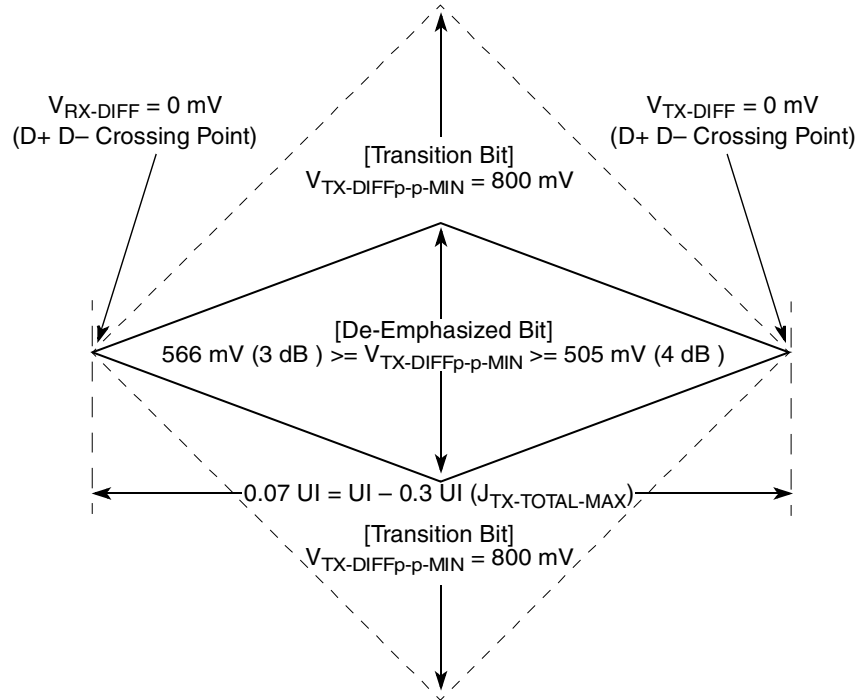
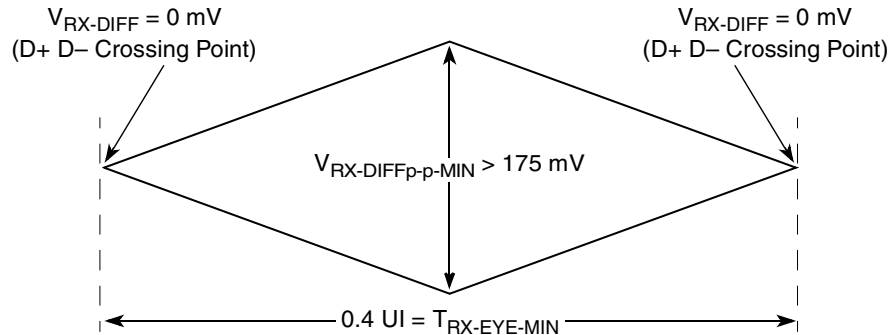
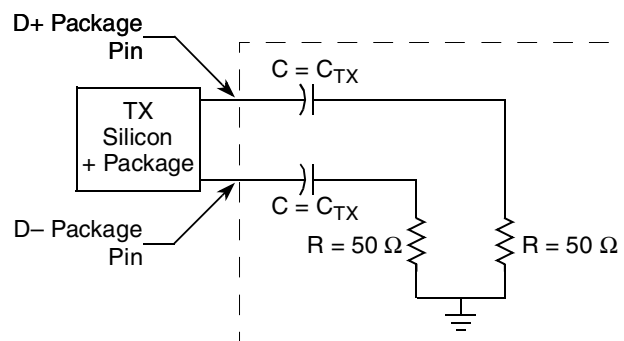

Figure 41. Minimum Transmitter Timing and Voltage Output Compliance Specifications
Figure 42. Minimum Receiver Eye Timing and Voltage Compliance Specification
Figure 43. Compliance Test/Measurement Load
- 2.) Specified at the measurement point into a timing and voltage compliance test load as shown in Figure 43 and measured over any 250 consecutive TX UIs. (Also refer to the transmitter compliance eye diagram shown in Figure 41.)
- 4.) The transmitter input impedance shall result in a differential return loss greater than or equal to 12 dB and a common mode return loss greater than or equal to 6 dB over a frequency range of 50 MHz to 1.25 GHz. This input impedance requirement applies to all valid input levels. The reference impedance for return loss measurements is 50 Ω to ground for both the D+ and D– line (that is, as measured by a vector network analyzer with 50- Ω probes—see Figure 43). Note that the series capacitors C_{TX} is optional for the return loss measurement.
- 5.) Measured between 20–80% at transmitter package pins into a test load as shown in Figure 43 for both $V_{\text{TX-D+}}$ and $V_{\text{TX-D-}}$.
The TX eye diagram in Figure 41 is specified using the passive compliance/test measurement load (see Figure 43) in place of any real PCI Express interconnect + RX component.
- 2.) Specified at the measurement point and measured over any 250 consecutive UIs. The test load in Figure 43 should be used as the RX device when taking measurements (also refer to the receiver compliance eye diagram shown in Figure 42). If the clocks to the RX and TX are not derived from the same reference clock, the TX UI recovered from 3500 consecutive UI must be used as a reference for the eye diagram.
- 4.) The receiver input impedance shall result in a differential return loss greater than or equal to 15 dB with the D+ line biased to 300 mV and the D– line biased to –300 mV and a common mode return loss greater than or equal to 6 dB (no bias required) over a frequency range of 50 MHz to 1.25 GHz. This input impedance requirement applies to all valid input levels. The reference impedance for return loss measurements for is 50 Ω to ground for both the D+ and D– line (that is, as measured by a Vector Network Analyzer with 50- Ω probes—see Figure 43). Note that the series capacitors CTX is optional for the return loss measurement.
The RX eye diagram in Figure 42 is specified using the passive compliance/test measurement load (see Figure 43) in place of any real PCI Express RX component.
Note: In general, the minimum receiver eye diagram measured with the compliance/test measurement load (see Figure 43) will be larger than the minimum receiver eye diagram measured over a range of systems at the input receiver of any real PCI Express component. The degraded eye diagram at the input receiver is due to traces internal to the package as well as silicon parasitic characteristics which cause the real PCI Express component to vary in impedance from the compliance/test measurement load. The input receiver eye diagram is implementation specific and is not specified. RX component designer should provide additional margin to adequately compensate for the degraded minimum receiver eye diagram (shown in Figure 42) expected at the input receiver based on some adequate combination of system simulations and the return loss measured looking into the RX package and silicon. The RX eye diagram must be aligned in time using the jitter median to locate the center of the eye diagram.
The reference impedance for return loss measurements is $50\ \Omega$ to ground for both the D+ and D– line (i.e., as measured by a vector network analyzer with $50\text{-}\Omega$ probes—see Figure 43). Note that the series capacitors, C_{TX} , are optional for the return loss measurement.
The AC timing and voltage parameters must be verified at the measurement point, as specified within 0.2 inches of the package pins, into a test/measurement load shown in Figure 43.